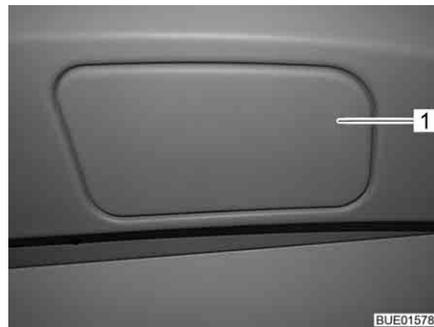
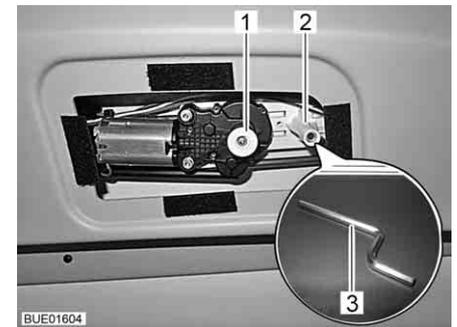

Fig. 108 Emergency release cover
Fig. 109 Windscreen shade emergency release
- Remove the cover (Fig. 108,1) of the emergency release on the driver's cabin ceiling using a flat object (e.g. coin).
- Insert the long arm of the hexagon spanner (Fig. 109,3) provided into the socket (Fig. 109,2).
- Push the knob (Fig. 109,1).
- Pull the knob (Fig. 109,1) and fit the cover (Fig. 108,1).